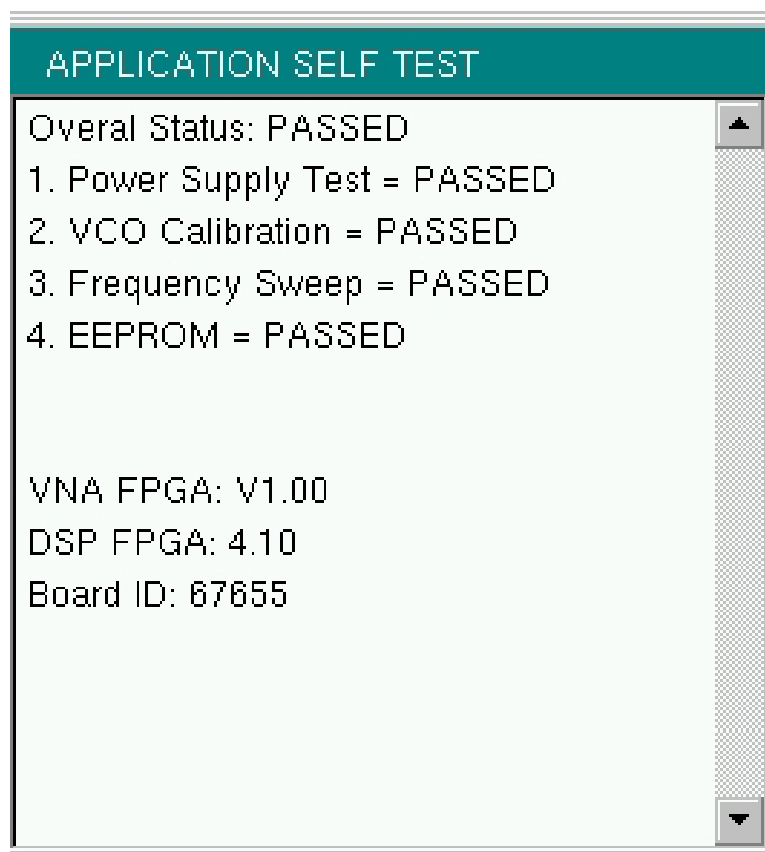

Figure C-2. Application Self Test Results Window (Vector Network Analyzer mode)
To run the application self test, press **Shift** and **System** (8) and then Application Self Test from within the desired mode. When you are in Vector Network Analyzer mode, you will see the results window that is shown in Figure C-2 (note that your instrument display may differ from this image), which summarizes the status of several key functions that are specific to this application.